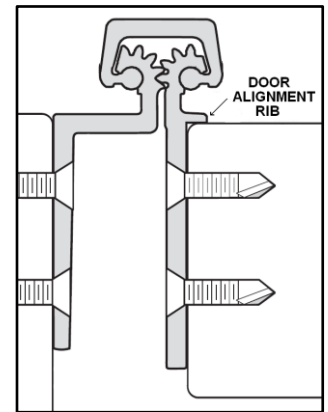

Fig. 2
1. With the hinge open, place the hinge door leaf against the edge of the door making certain that the alignment rib is flush against the door face along its entire length (See Fig. 2). Position the top of the hinge flush with the top of the door.